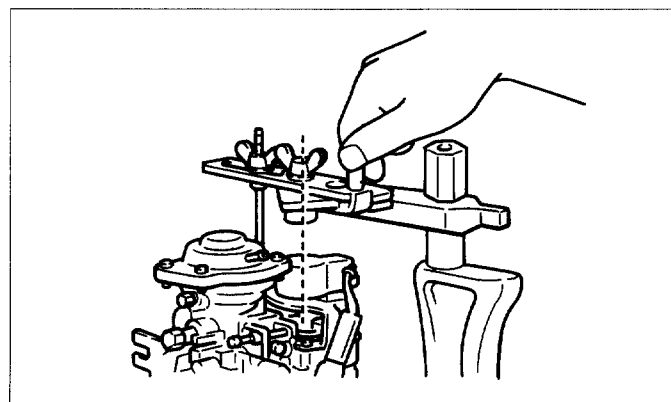

Fig.15-38
(2) Install the RPS and fix the adjusting lever while adjusting the pump speed and the injection quantity by shifting the adjusting lever from the FULL position to the IDLE position as indicated in the test specifications. (See Fig.15-38)